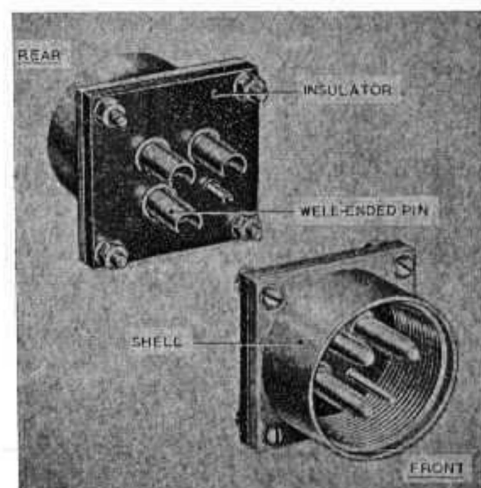

Fig. 1. Fixed unit—fixed pins version
6. This style of unit (fig. 1 and 5) was the original design; it consisted of an insulator of phenolic material, in which the pins are permanently moulded in position, and an aluminium, brass or steel shell machined from bar. The square flange is integral with the shell.